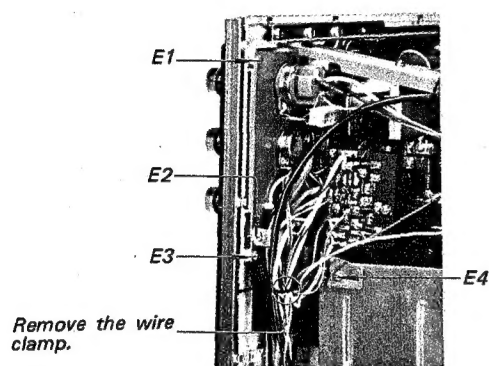

Fig. 2-7.
3. Remove the four screws labeled E1 ~ E4 in Fig. 2-7.